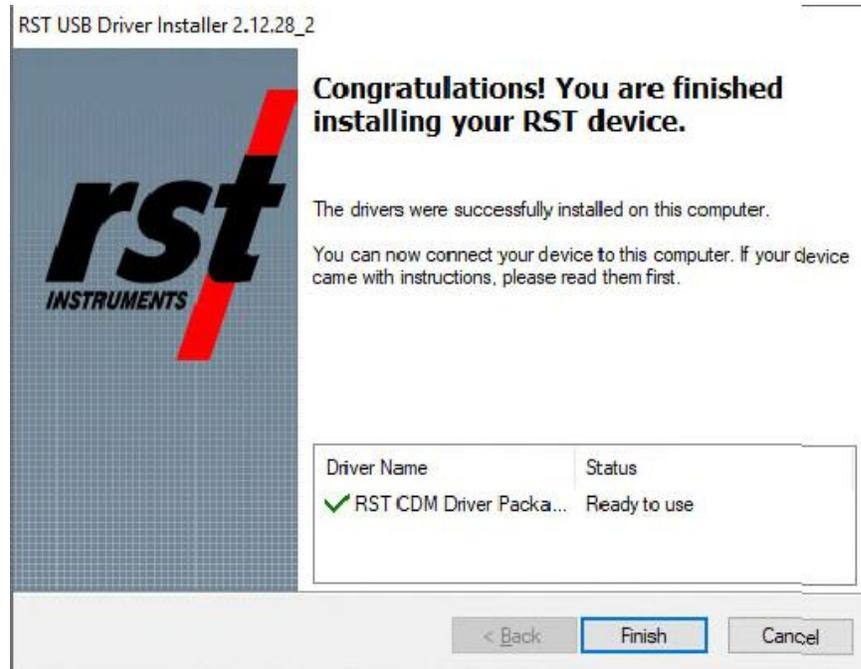

FIGURE 4-4 NEW HARDWARE WIZARD FOR DEVICE – INSTALLATION COMPLETE
6. Click *Finish* to complete the installation (Figure 4-4).